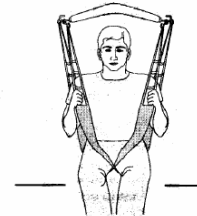

Figure 4 - Configuring the Sling - Step 2
2. Run the left leg strap under the patient's left leg and attach to the right front hook (Figure 4).